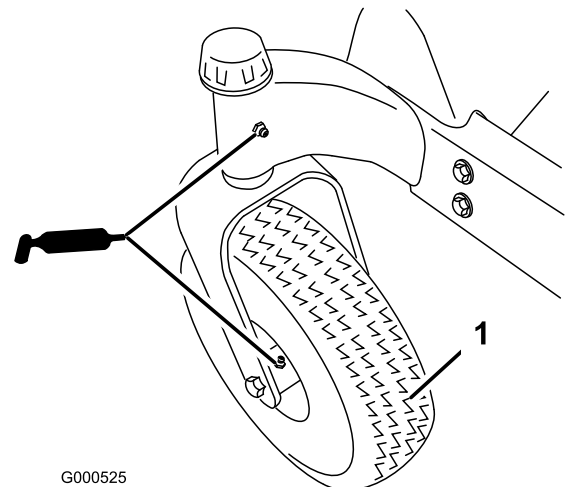
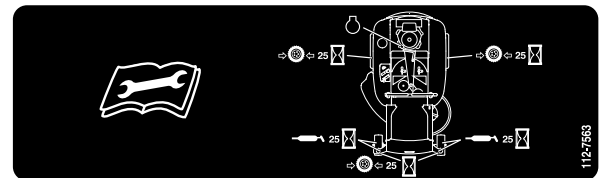

Figure 30
Figure 31
Grease the front caster pivots and wheels (Figure 30).
3. Clean the grease fittings (Figure 30 and Figure 31) with a rag. Make sure to scrape any paint off of the front of the fitting(s).
4. Connect a grease gun to each fitting (Figure 30 and Figure 31). Pump grease into the fittings until grease begins to ooze out of the bearings.